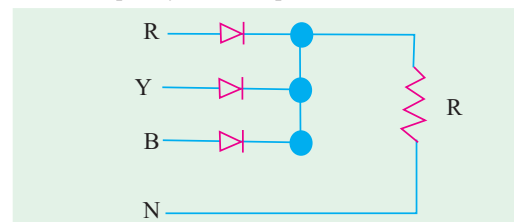

Fig. 55.56
16. The circuit in Fig. 55.56 shows a 3-phase half-wave rectifier. The source is a symmetrical, 3-phase four-wire system. The line-to-line voltage of the source is 100 V. The supply frequency is 400 Hz. The ripple frequency at the output is